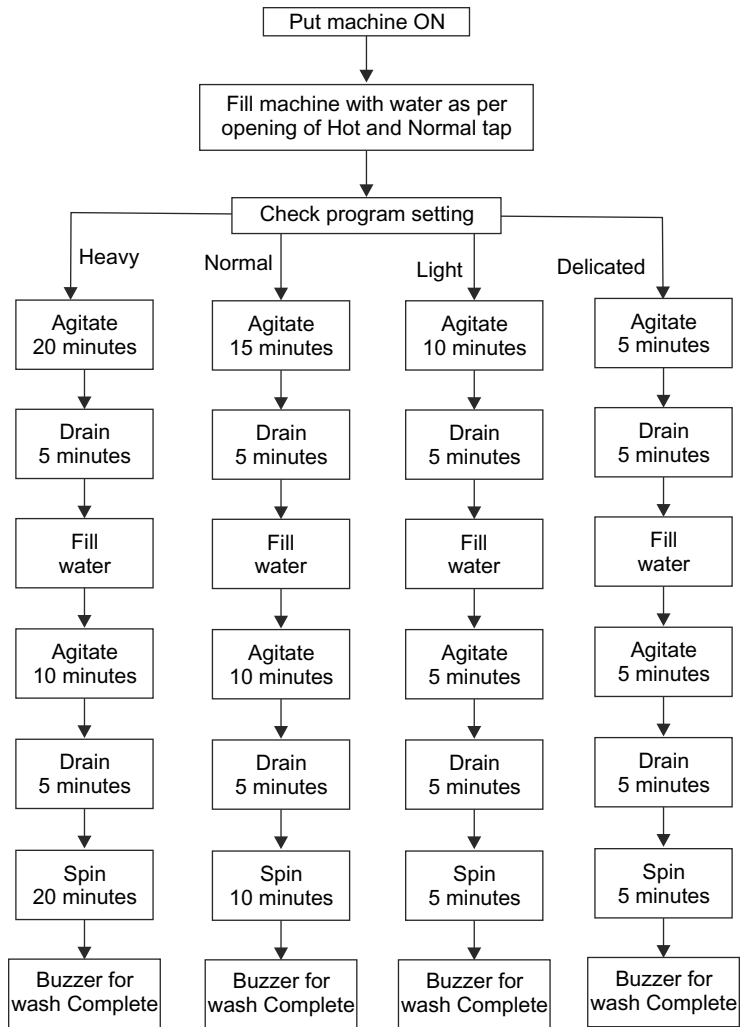

Fig. 14.20 Flowchart for washing-machine controller
The output signals of washing-machine controller are Machine ON, Fill water, Agitation control, Drain, Spin and Washing complete. These output signals are available from P2.0, P2.1, P2.2, P2.3, P2.4, P2.5, P2.6 and P2.7 respectively. The flowchart for program of a washing-machine controller is depicted in Fig. 14.20.
The flowchart for sequence of operations of a washing machine is shown in Fig. 14.20. The integer number in parentheses states the minutes of operation. For example, agitation (10) means that agitation will continue for 10 minutes. The washing-machine controller software consists of a main program and subroutine programs for the following operations: